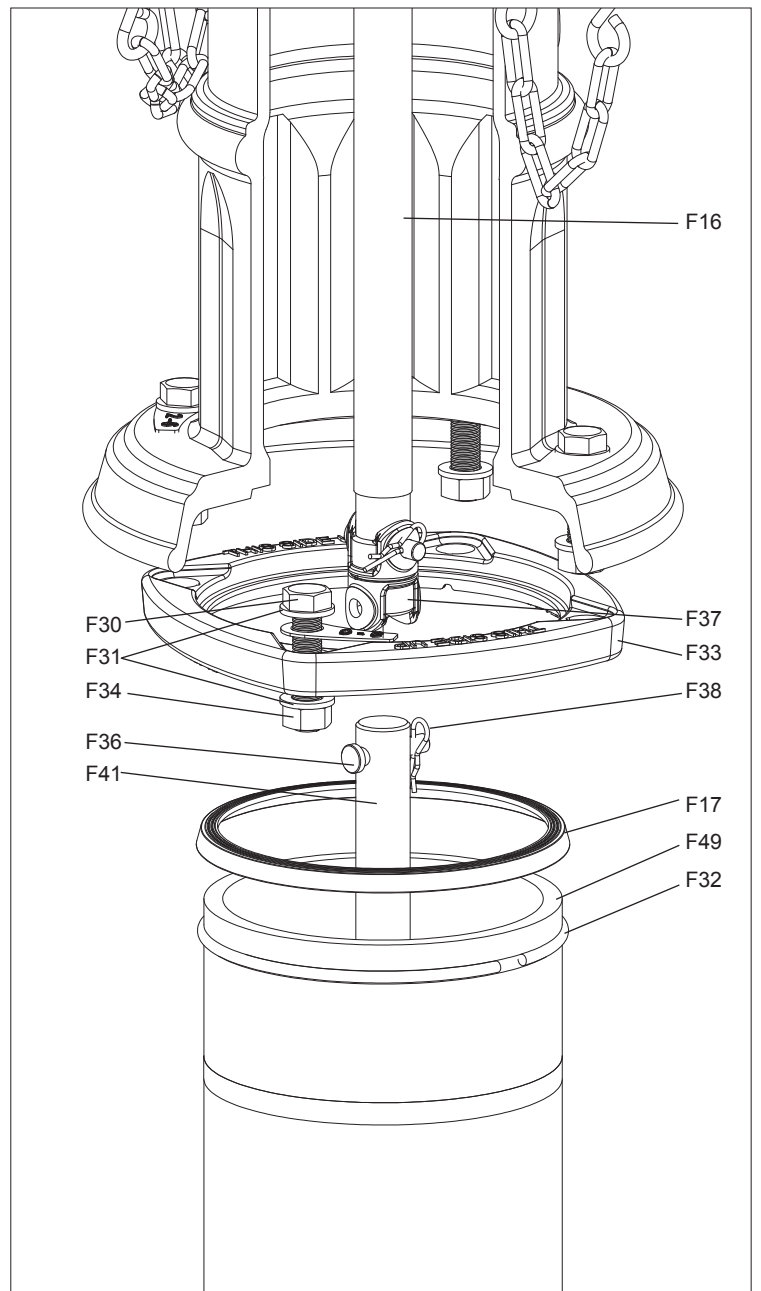

Fig. 8
1. Remove the hardware (F30,31,34) from the Breakable Flange (F33). Slide the Lock Ring (F32) off of the Lower Barrel (F49). (See Fig. 8)
WARNING: Be sure the Breakable Flange(F33) is right side up, indicated with the text "This Side Up", facing towards the nozzle section. (See Fig.8&9) .